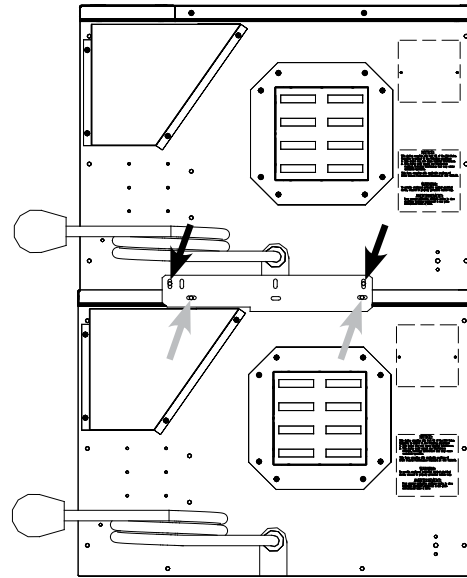

FIGURE 4: Double Stacking Ovens
Double Stacking Ovens (Figure 4)
- a. Remove the screws marked with gray arrows in Figure 4.
NOTE: Orient the bracket as shown in Figure 4.
6. Remove the screws from the oven that will be placed on top, as marked with black arrows in Figure 4.